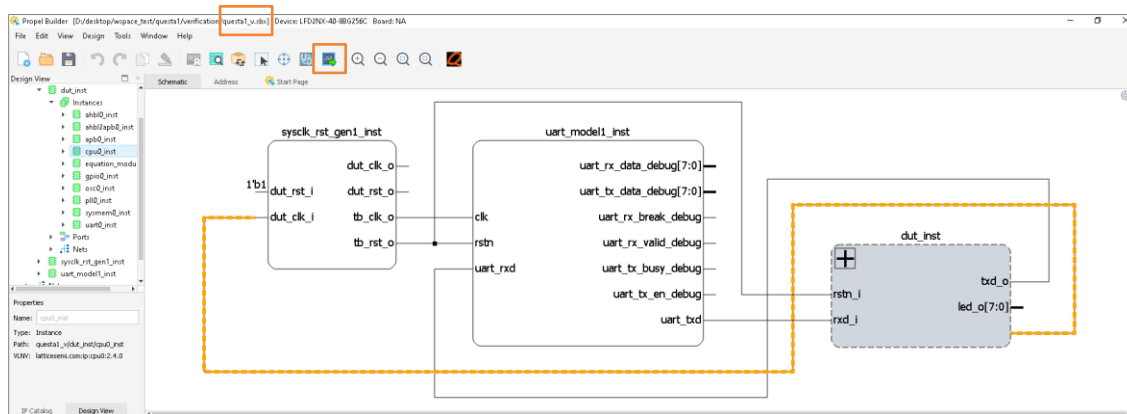

Figure 2.174. Launch Simulation in Verification Project
**Note:** SoC design project is called `***.sbx`. Verification project is called `***_v.sbx` (Figure 2.174).